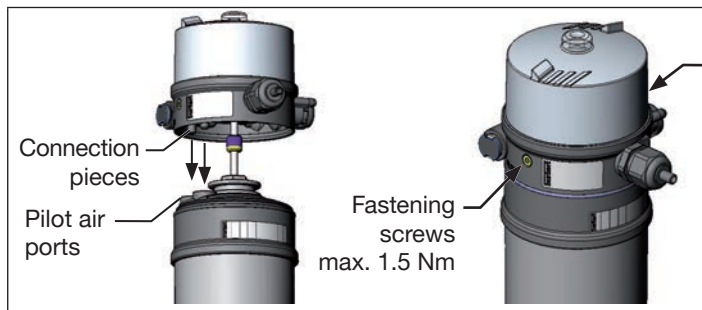

Fig. 9: Installation of the Pneumatic Control Unit, 21xx series
- Align the Pneumatic Control Unit until the connection pieces of the Pneumatic Control Unit can be inserted into the pilot air ports of the actuator (see also “Fig. 9”).